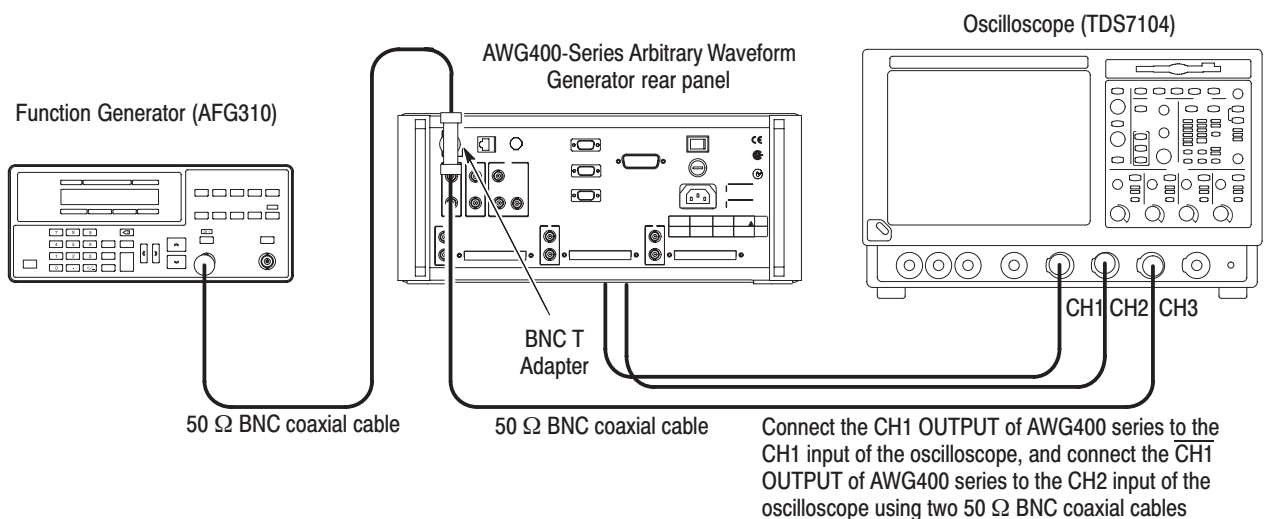

Figure 4-8: Triggered mode initial test hookup (Instrument other than option 05)
- a. Use two 50 Ω BNC coaxial cable to connect the AWG400-Series CH1 output connector to the oscilloscope CH1 input connector, and the AWG400-Series CH2 output connector to the oscilloscope CH2 input connector. Connect a BNC-T adapter to the TRIG IN connector of AWG400-Series, and connect a 50 Ω BNC coaxial cable from the BNC-T adapter to the oscilloscope CH3 input connector. (Refer to Figure 4-8.)
- b. Connect the fourth 50 Ω BNC coaxial cable to the BNC-T adapter. Connect the opposite end of the coaxial cable to the function generator output. (Refer to Figure 4-8.)